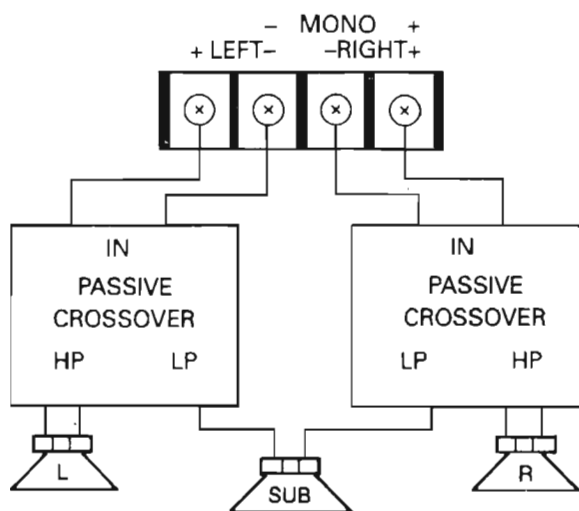

Fig 5. THE STEREO + MONO MODE
Each model has 3 possible Output Modes (Stereo, Bridged Mono or both) and 3 possible Crossover Modes (Full Range, Low Pass or High Pass). Initially, you might use it to drive the Left & Right Rear Speakers in Full Range or a single Subwoofer in Bridged Mono Low Pass. If economy is most important, a single unit can handle both jobs (Stereo + Mono) with the addition of speaker crossover networks as shown in Figure 5.
- C. The Stereo + Mono Output Mode is shown in Figure 5. In this case, one amplifier is driving both the Subwoofer in bridged mono and the Left & Right speakers in stereo. The internal Crossover must be set to the Flat position and the Left/Right Inputs are full range stereo. The low and high frequencies are separated at the amplifier outputs by a passive crossover network. This is very important for two reasons.